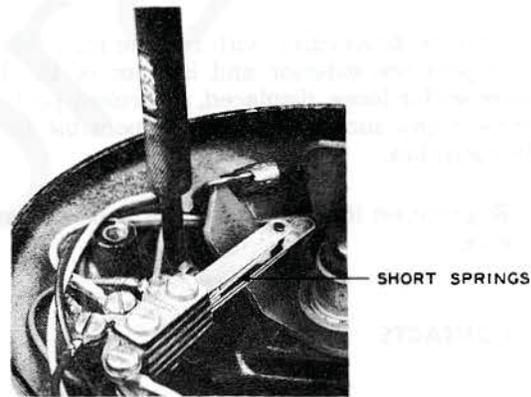

FIG. 4B—SHORT SPRING CONTACT ADJUSTMENT
3.08 On short springs, the 466A tool should be applied close to the spring pile-up, bending slightly (see Fig. 4B).